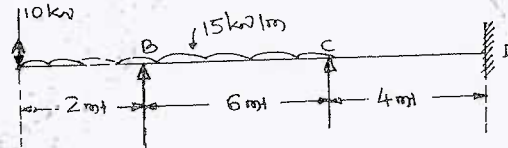

Fig.Q7
- 7 Analyze the beam shown in Fig.Q7 and draw shear force and bending moment diagrams by using Clapeyron's theorem: